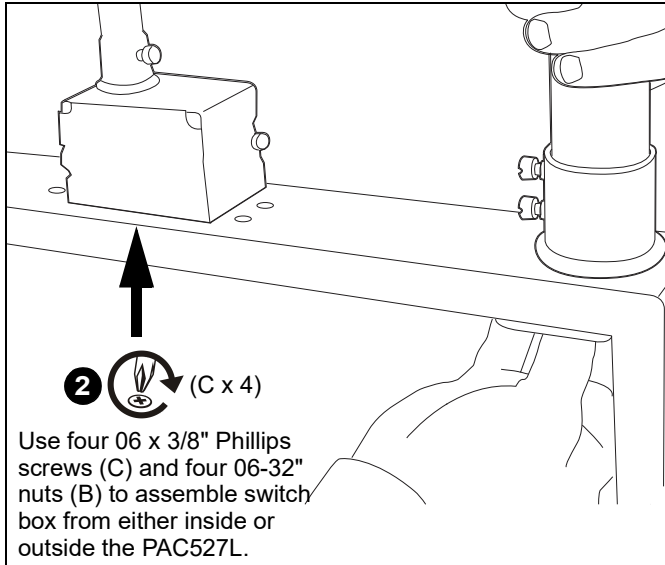

Figure 7
- Loosely attach required conduit and conduit connectors, switch boxes, outlets, etc (not included) to PAC527L to enable fitting into the wall opening. (See Figure 7)